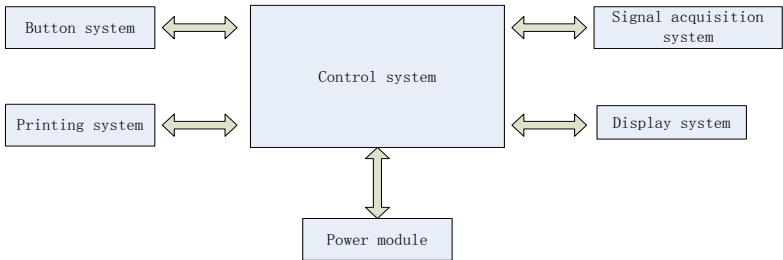

Figure 4-2 Block diagram of control unit
(2) Principle block diagram is shown in Figure4-2.